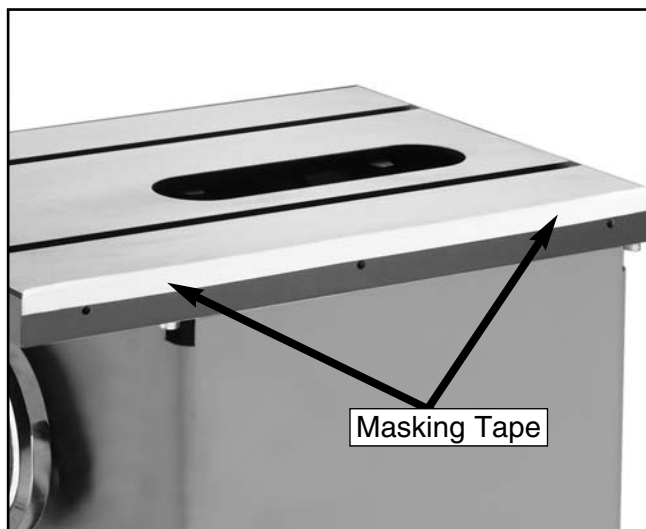

Figure 10. Using tape to shim for wing alignment.
1. Attach the left wing to the table using the (3) $\frac{3}{8}$ "-16 x $1\frac{1}{4}$ " Hex Bolts and $\frac{3}{8}$ " Flat Washers provided. Adjust the wing reasonably flush with the table and do not tighten the bolts completely at this time.
2. Attach the right wing to the table using the (3) $\frac{3}{8}$ "-16 x $1\frac{1}{4}$ " Hex Bolts and $\frac{3}{8}$ " Flat Washers provided. Adjust the wing reasonably flush with the table and do not tighten the bolts completely at this time.
8. If the extension wings tilt up or down at the outside edges, remove the wings and shim them with masking tape as shown in **Figure 10**.